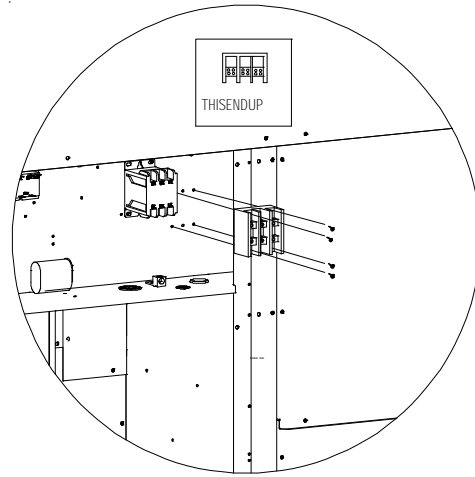

Figure 2
3. Remove single point block from box, and attach to control box using the four screws provided with the kit (Figure 2). The block should be oriented so that the side where the lugs have multiple openings are facing up.